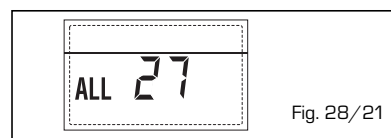

Fig. 28/21
**- ANOMALIA COERENZA INGRESSO (S3) SOLO PER IMPIANTO 7 "ALL 28" (fig. 28/22)**